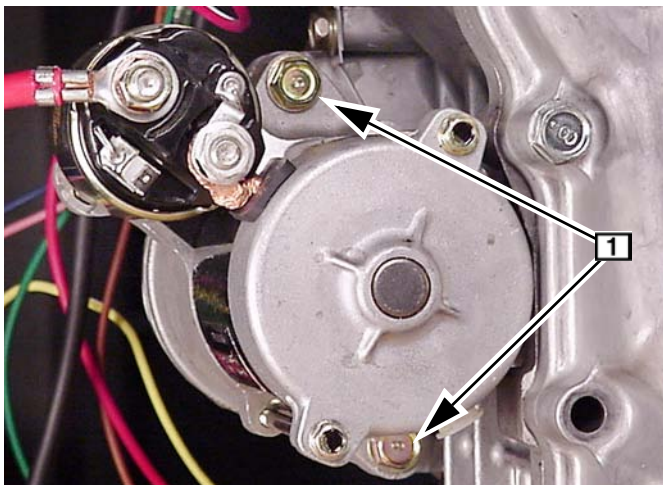

Fig. 48
- Remove two screws **1** and starter motor, Fig. 48.